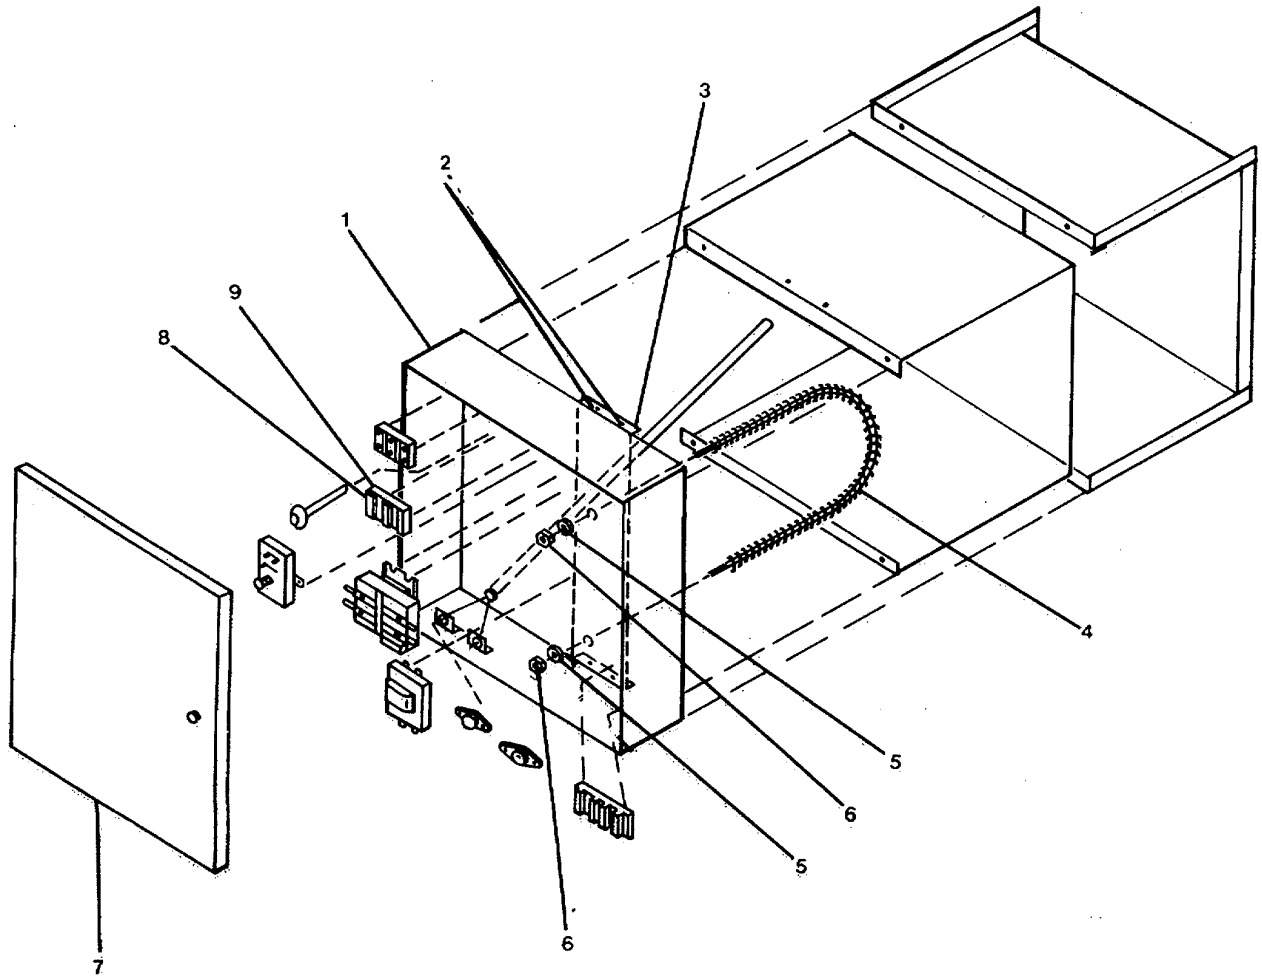

Figure 2-9. Duct Heater (Duct #3).
- l. Secure heating element (4) with terminal washers (5) and nuts (6) to mounting flange (3).
- m. Close heater front cover (7).
- (1) Unlock power panel and switch circuit breaker ON.
- (2) Refer to TM 55-1905-223-10 for details on control settings.
- (3) Remove "Out of Service - Do Not Operate" tag from circuit breaker.
**2-19. Repair Heater, Duct Type, Stationary (Duct #3). (FIGURE 2-9)**